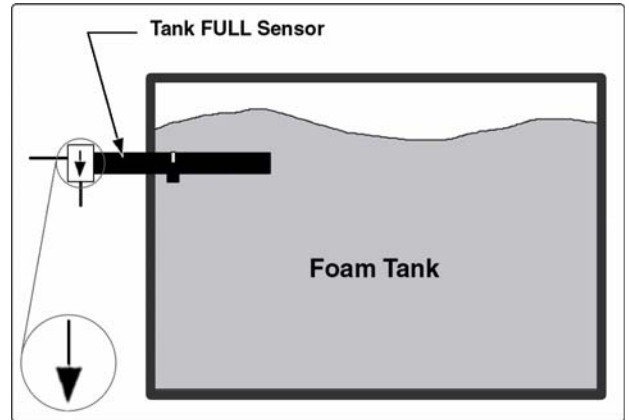

Figure 3-3: Sample, Tank FULL Sensor Mounting
2. Install the tank FULL level sensor near the top of the appropriate foam tank. (See Figure 3-3: 'Sample, Tank FULL Sensor Mounting.')
Tighten the sensor having the “arrow” on the base of the hex pointing down. After installation, verify switch operation using a powered test light. (See Figure 3-3: “Sample, Tank FULL Sensor Mounting.”)